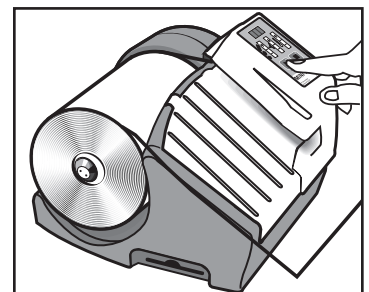

Figure 6
- Press and hold the Start button — Film advances automatically. (See Figure 6)